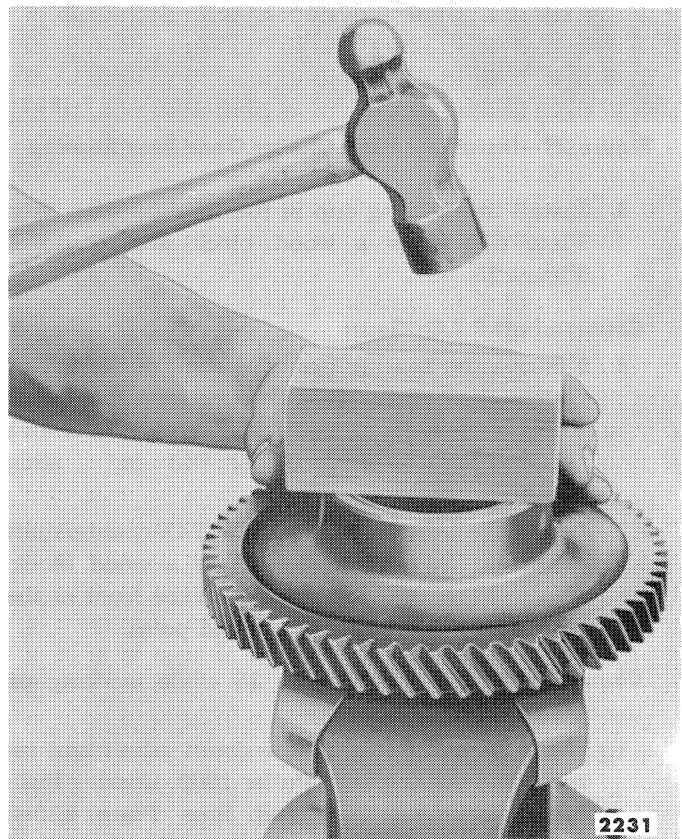

Figure 27—Installing Bearing Cup in P.T.O. Countershaft Gear
2. Install the bearing cup in the P.T.O. countershaft gear with Step Plate 630-15 or a wood block, Figure 27. Install the bearing on the front of the gear with a 1 5/8" I.D. sleeve and press.